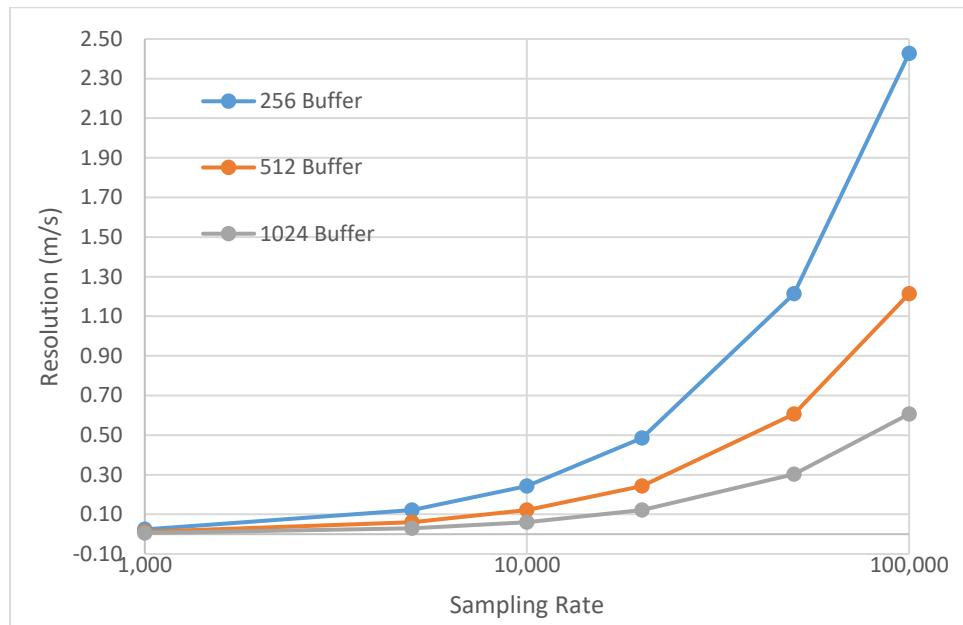

Figure 6. Doppler (-A) Buffer Size versus Resolution
**Sampling Rate/Buffer Size (-A, -C Doppler only)** – set these values to control the sample rate of the module. This setting influences the output data and the rate at which the data is reported. The buffer size influences the report rate and resolution. A buffer size of 512 will have a report rate between 5-30Hz. The resolution becomes worse by a factor of two with a 512-buffer size versus 1024 (Figure 6) and worse again at 256 buffer size.